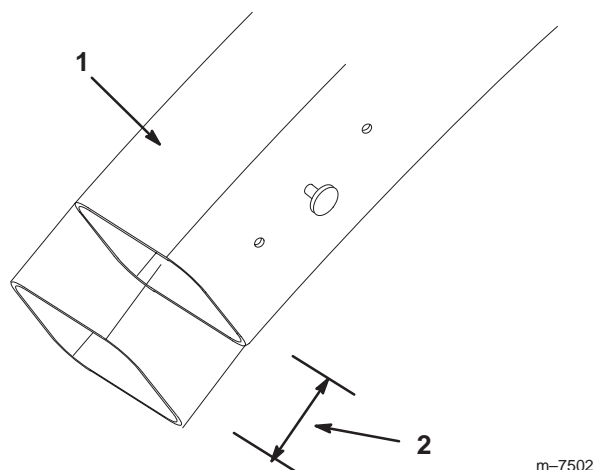

Figure 15
1. Cut 2-3/4 inches (7 cm) off the bottom of the discharge tube (Fig. 15).